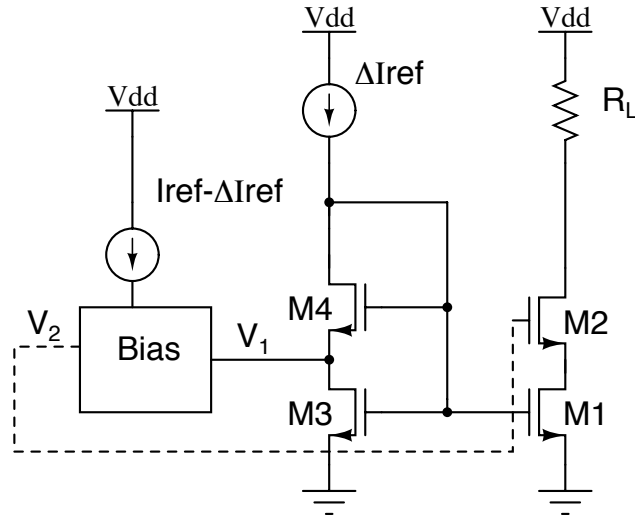

Figure 10: Current Mirror Configuration 4
- Additional credit:** Find out the smallest the gate voltages of M1 and M2 for cascode configuration. To obtain these gate voltages, we use a current mirror configuration shown in Fig10. Calculate the  $V_1$  and  $V_2$  shown in Fig10. Replace the Bias block with an appropriate transistor realization. Size the transistors properly to get 1% accuracy from this current mirror for  $V_{GS} - V_{th} = 200 \text{ mV}$ ,  $I_{ref} = 1 \text{ mA}$  and  $R_L = 500\Omega$ .